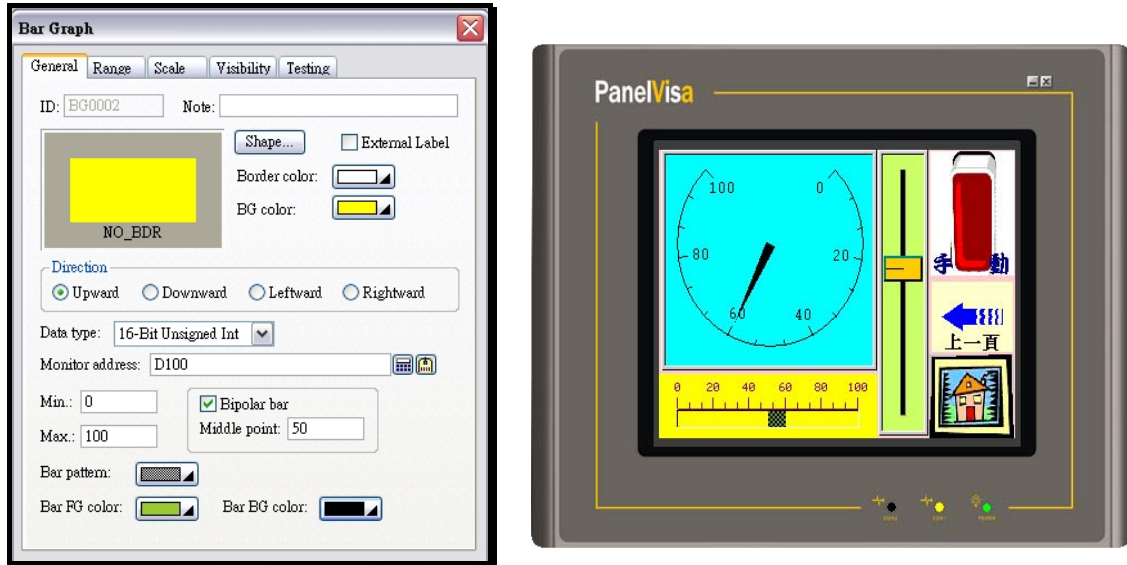

Figure 2-35 Object properties dialogue \_bipolar graph
**Bipolar bar graph** : The HMI compares the value read from specified registers of PLC with Middle point and transforms the difference to bipolar graph on the screen. See the settings in figure 2-35. When the value of PLC is “d100=60”, displays PLC value (60)-Middle point(50)=10 , See figure 2-35. When the PLC value (d100=80), displays PLC(80)-Middle point(50)=30>High Limit(25), then changes to a specified color.